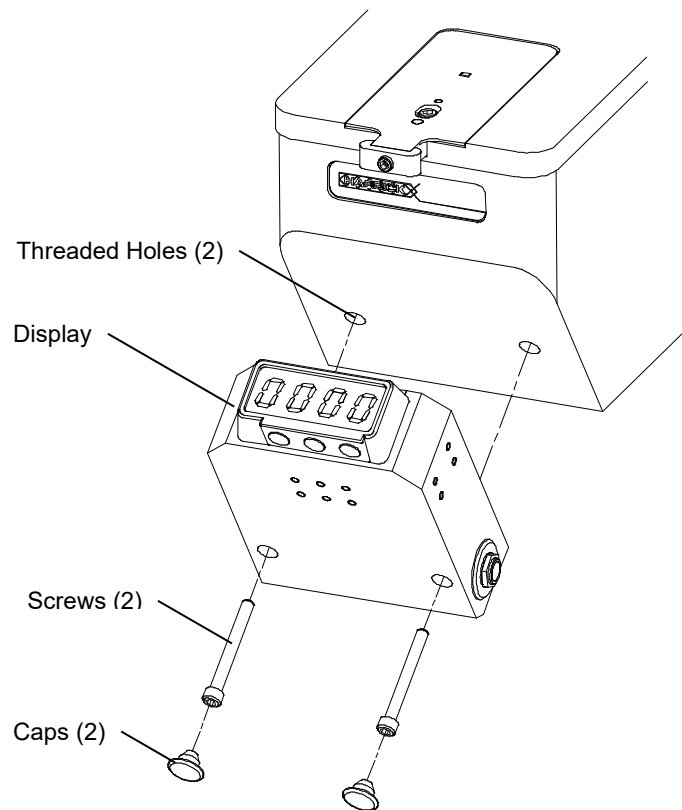

Figure 21 • Mounting the Display
- Remove the two caps that cover the threaded holes on the front of the accessory (see Figure 21).